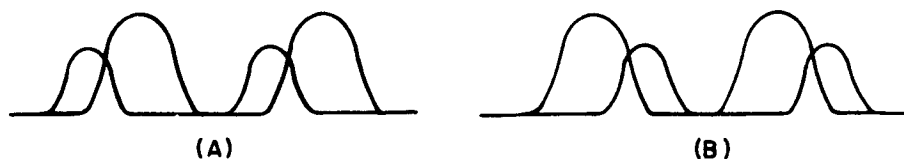

Figure 3-20. Zero Distance Delay Measurement Waveforms
(11) ZERO DISTANCE CHECK.
Step 5. If pattern such as waveform in figure 3-20 is obtained (with radio beacon output pulse pair to left of reference pulse pair), overall delay is less than 50.2 microseconds and next step may be performed.
Step 6. Change switch setting on SG-121A/URN-3 to OVERALL DELAY 2. Observe that pattern is like waveform b of figure 3-20. If not (that is, if radio beacon output is to left of reference pulse pair), zero distance relay is less than 49.8 microseconds and must be adjusted. Ideally, output pulses should be as much to right of reference pulse (switch position 1) as they are to left (switch position 2).